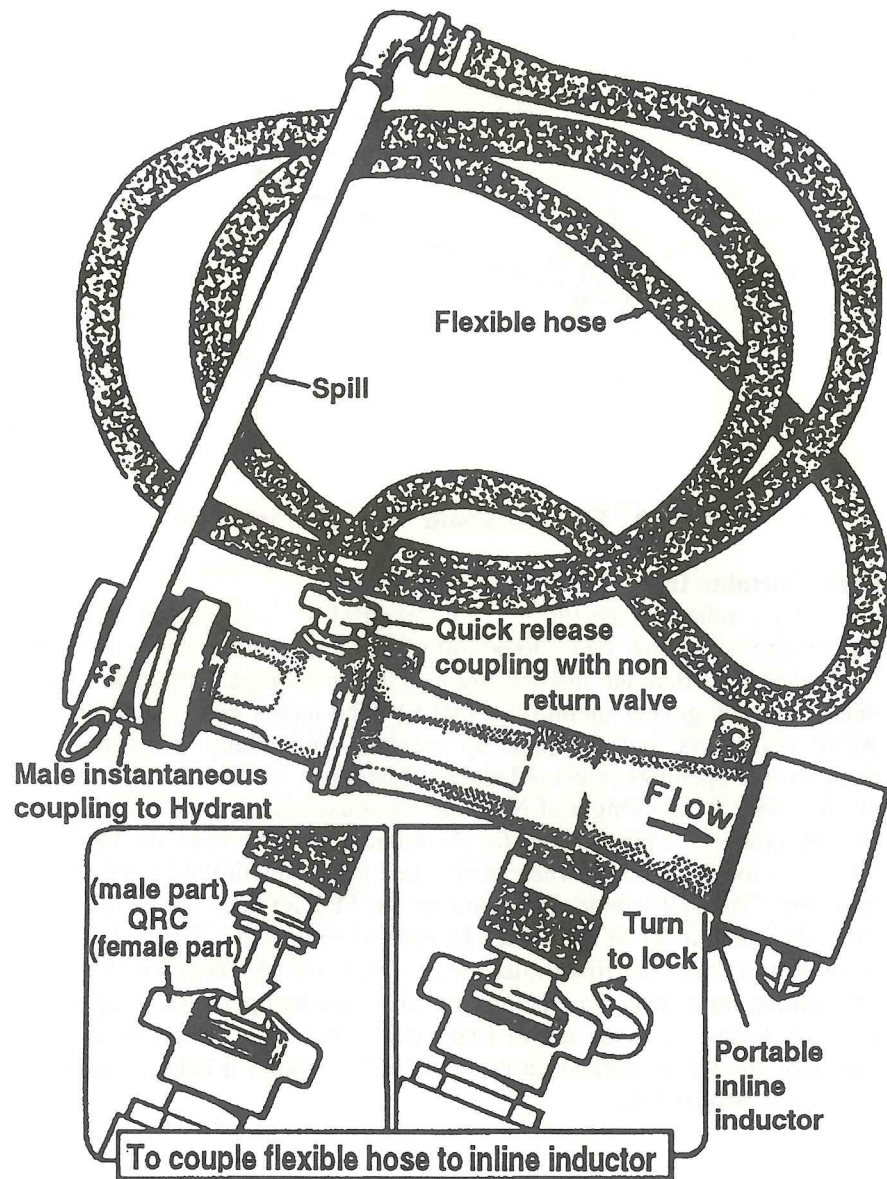

Fig 5-11. Portable Inline Inductor - (FBU5(X))
This inductor (see Fig 5-11) is designed for use with the FB5(X). Its purpose is to allow AFFF to be introduced into the hoseline at, or near, the hydrant position and not directly into the branchpipe. This allows the operator much greater mobility in that he is no longer constrained by the AFFF containers and the pick up assembly, especially when passing through WT openings or using ladders. The inline inductor has a stowage bracket with a 1.8m length of No 2 hose (for use between the hydrant and the inductor). The pickup spill for the inductor is taken from the FB5(X), which no longer needs it when being used in conjunction with the inline inductor. The spill connecting point on the FB5(X) need not be blanked off. The inline inductor should not be used when the FB5(X) is being used to introduce foam via foam inlet tubes. They are best kept for use with firefighting hoses which are being moved around by operators, as opposed to static hoses, eg those led to foam inlet tubes. A direction of flow indicator should be marked on the FBU 5(X) to avoid it being connected the wrong way round.